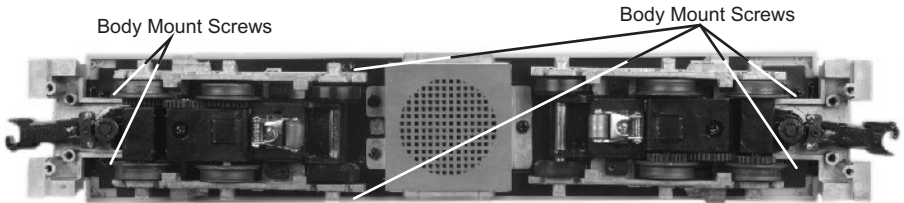
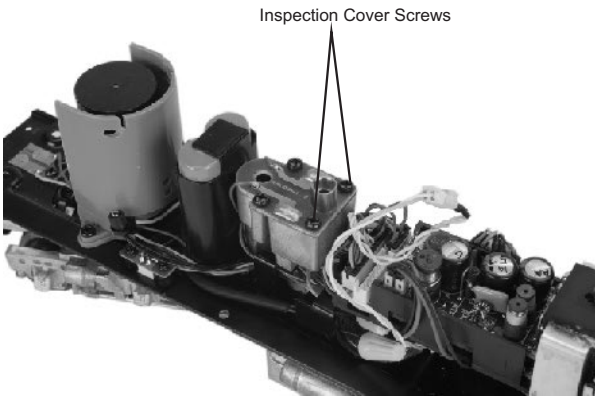

Figure 5: Locations of the Body Mounting Screws
Figure 10: Inspecting the Smoke Unit Wick
1. To access the gear box, remove the cab from the chassis by unscrewing the body mount screws as seen in Figure 5 and lifting the cab from the chassis.
2. Once the cab is removed, remove the trucks by unscrewing the black Phillips motor mount screw located on the underside of the drive trucks (see Figure 5).
If you experience poor or no smoke output when the smoke unit is on and has fluid, check the wick to see if it has become hard, blackened, and unabsorbent around the heating element. After removing the locomotive body from its chassis (See Figure 5), remove the smoke unit inspection cover (see Figure 10). After removing the inspection cover screws, lift the inspection plate away and inspect the wick. If it is darkly discolored and hard, it should be replaced.